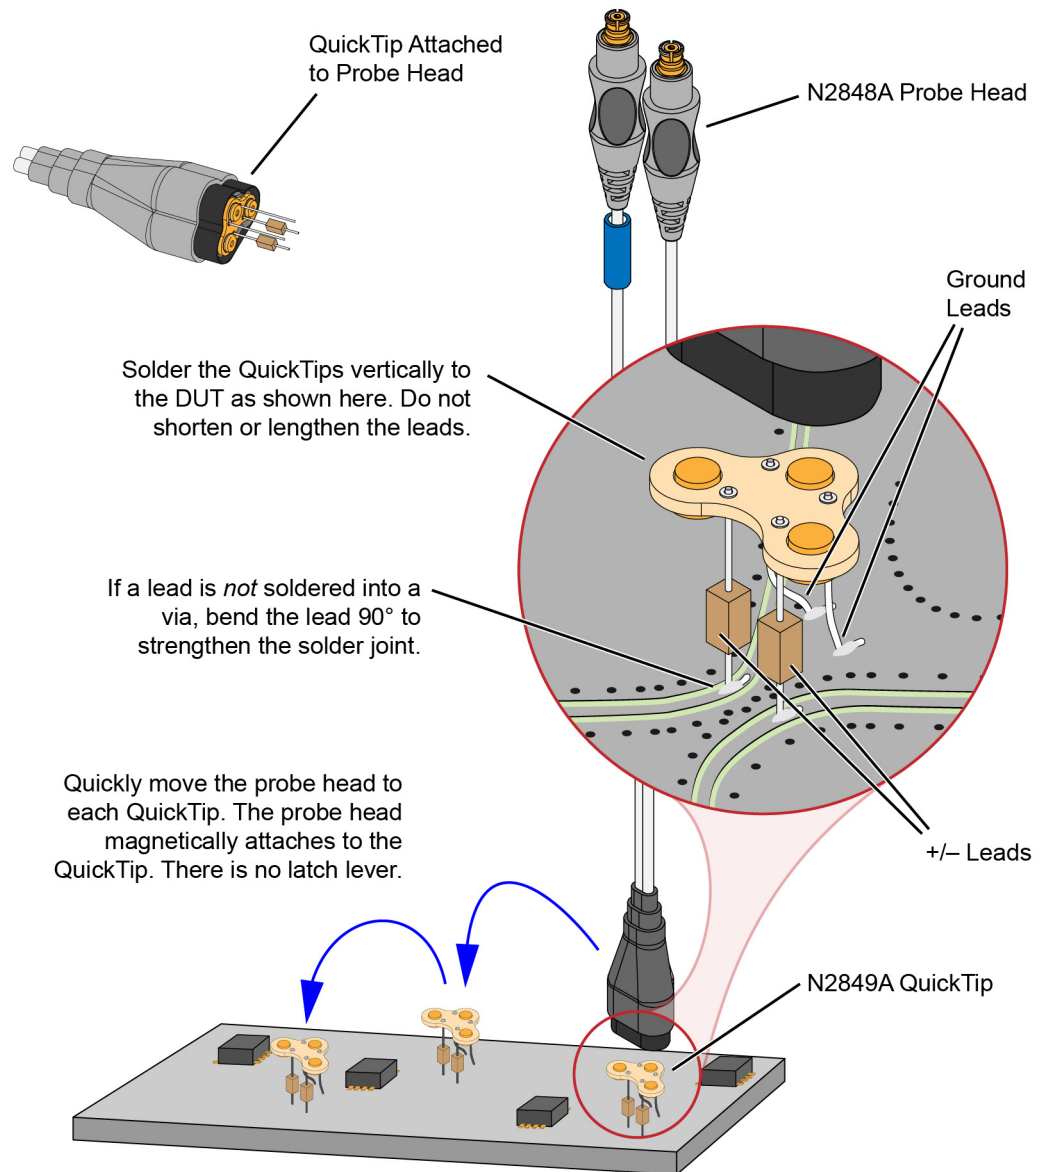

Figure 55 Probing with the N2848A Probe Head and QuickTip
Permanently solder any number of QuickTips to your DUT as shown in Figure 55 on page 69. Because the probe head is magnetically connected (instead of mechanically connected) to the QuickTip, you can effortlessly connect and disconnect to each QuickTip. For best performance, position the QuickTip vertically on the DUT. Because this is an InfiniiMode compatible head, the tip has two signal leads and two ground leads. To learn about InfiniiMode, refer to “To Use
- Orient the QuickTip vertically as shown in Figure 55 on page 69.